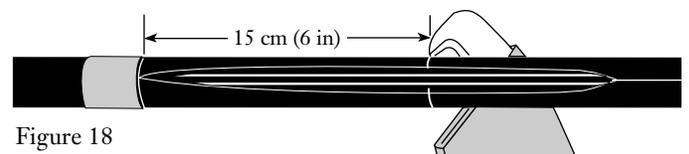

Figure 18
6.9 At a point approximately 15 cm (6 in.) from the tape wrap, use the hook blade knife to score a ring cut around the sheath. Do not cut completely through the sheath or damage the GRP rods (Figure 18).